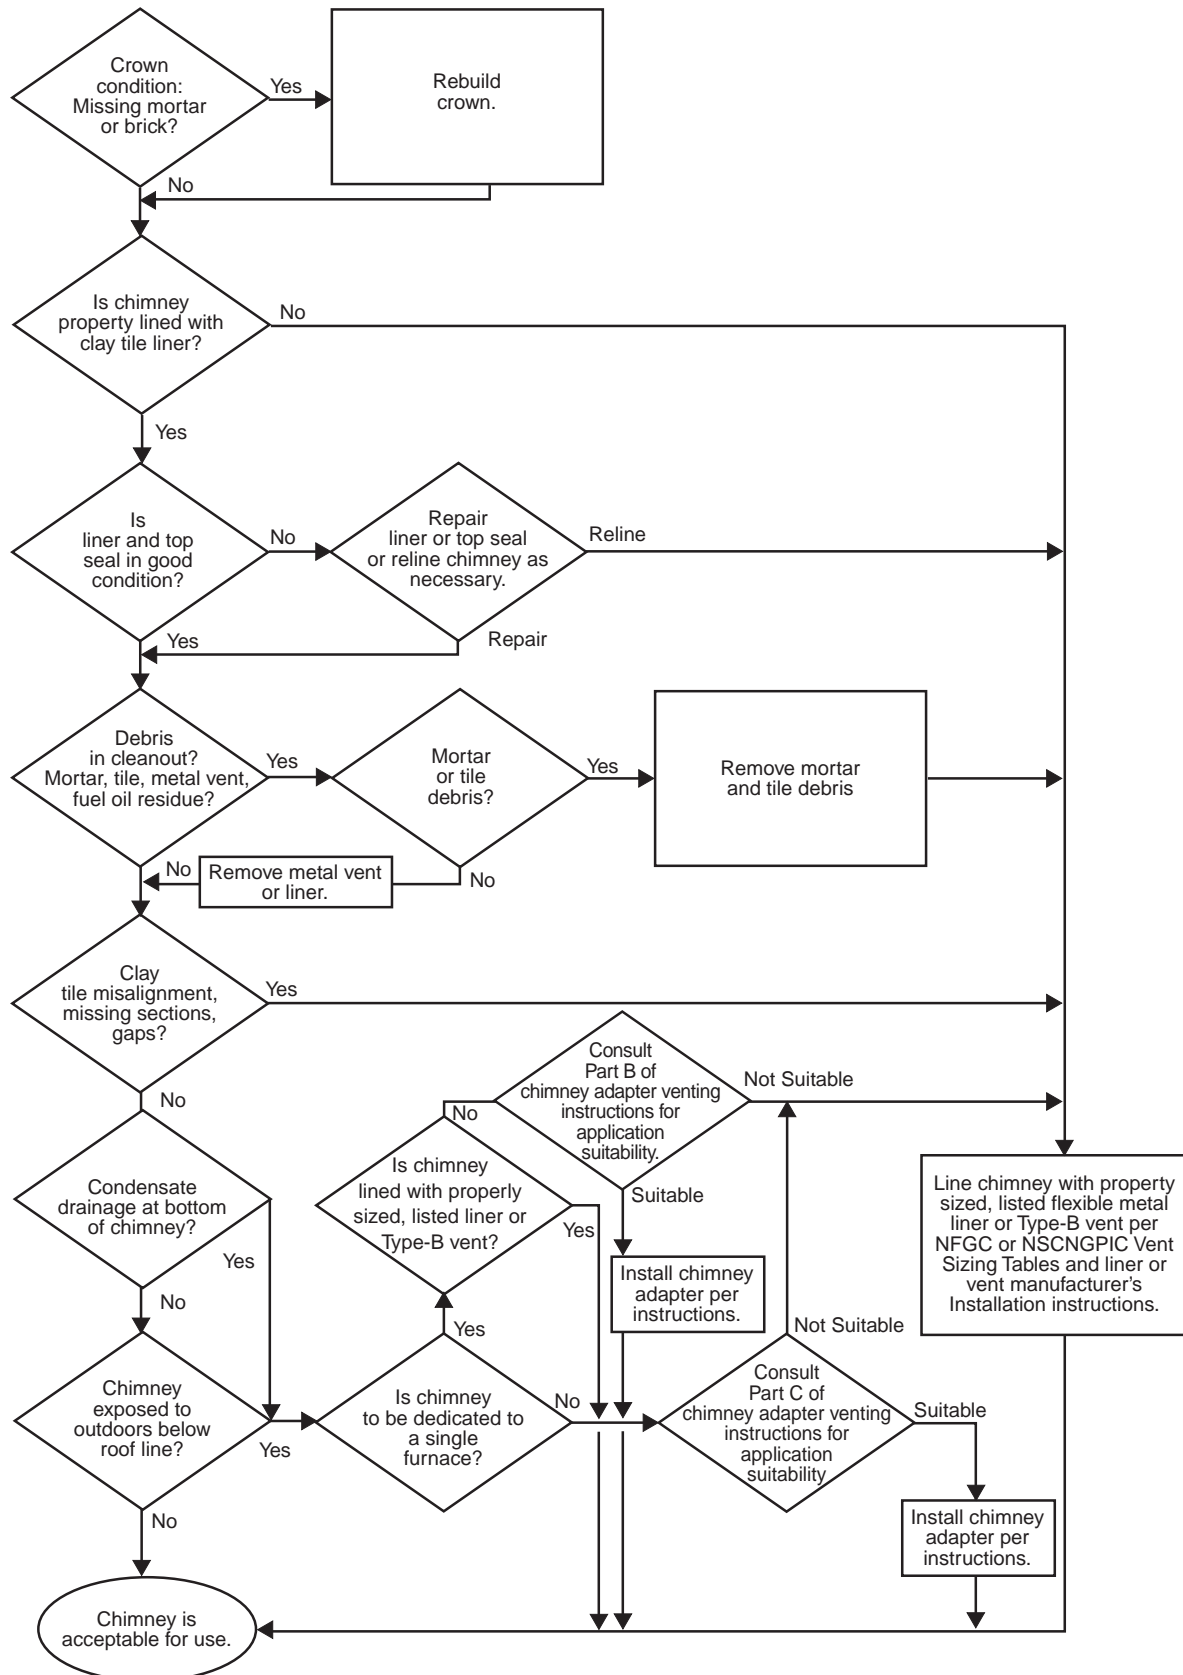

Fig. 26—Chimney Inspection Chart
6. Do not vent this appliance into an unlined masonry chimney. Refer to Chimney Inspection Chart, Fig. 26.
Inspections before the sale and at the time of installation will determine the acceptability of the chimney or the need for repair and/or (re)lining. Refer to Fig. 26 to perform a chimney inspection. If the inspection of a previously used tile-lined chimney: